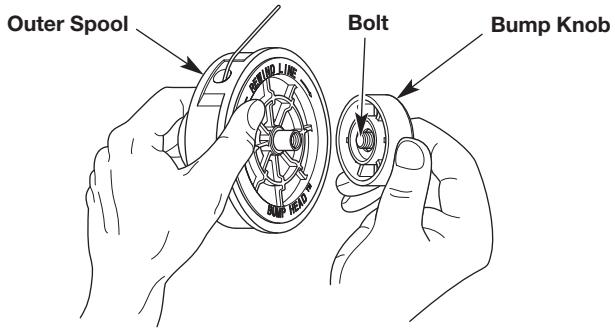

Fig. 15
- Hold the outer spool with one hand and unscrew the bump knob counterclockwise (Fig. 15).